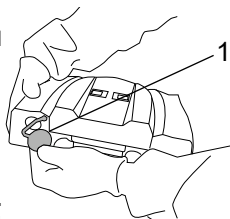

Fig.26
- Remove the cap of the dirty water tank (fig.26, ref. 1).